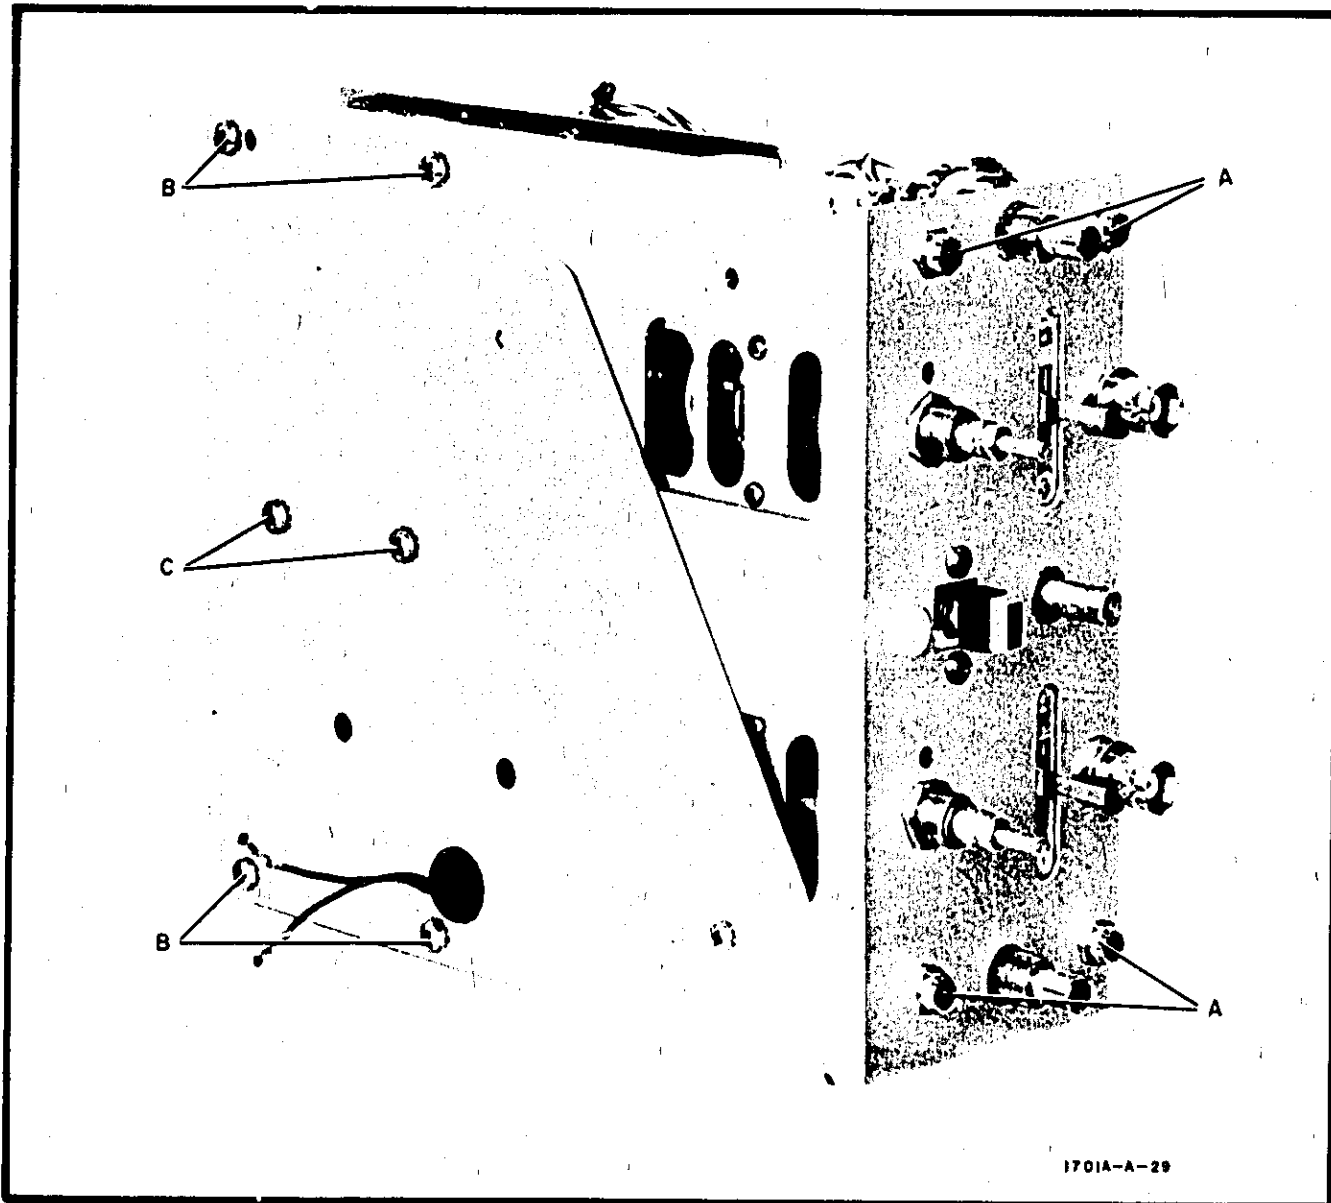

Figure 8-1. Vertical Amplifier Module Mechanical Parts Removal
- c. Remove two center screws from bottom side of vertical module (C, figure 8-1).
- b. Remove locking nuts (A, figure 8-1).
- c. Remove six screws on bottom side of vertical amplifier module (B and C, figure 8-1).